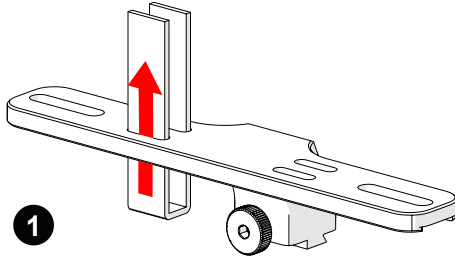

Fig. 101 - Insert velcro straps
1. Slide the velcro strap through the bracket's holes (*Fig. 101*).